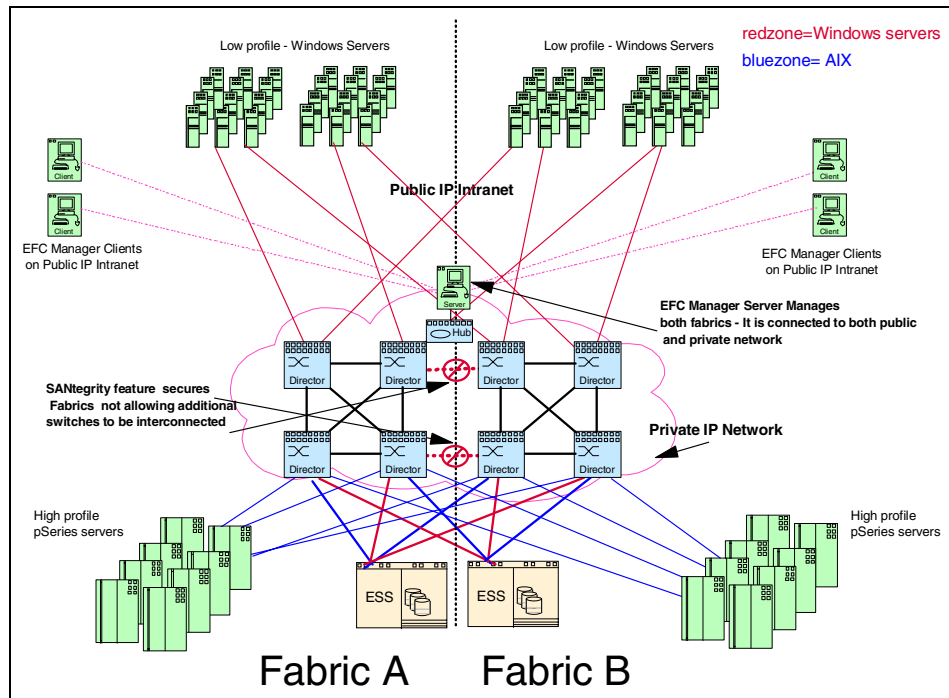

Figure 15-7 Secure solution
Any adverse effect to a SAN will typically have an impact on multiple servers within the SAN fabric. To minimize this impact it is important to ensure every possible security measure is incorporated into the SAN design. In Figure 15-7, we show an implementation where we have concentrated on illustrating the security features available in the McDATA portfolio to create a secure solution.
- ▶ Zoning has been implemented to restrict access. We have two options for our zoning. Each one offers high security, but different levels of flexibility. We can have one type of zoning, or have all three implemented. We can have the zone based type on each server, or we can also have the zone based type on each server operating system, as illustrated in Figure 15-7. Careful consideration should be given as to what type of zoning is used, based on the level of flexibility and security that is required.